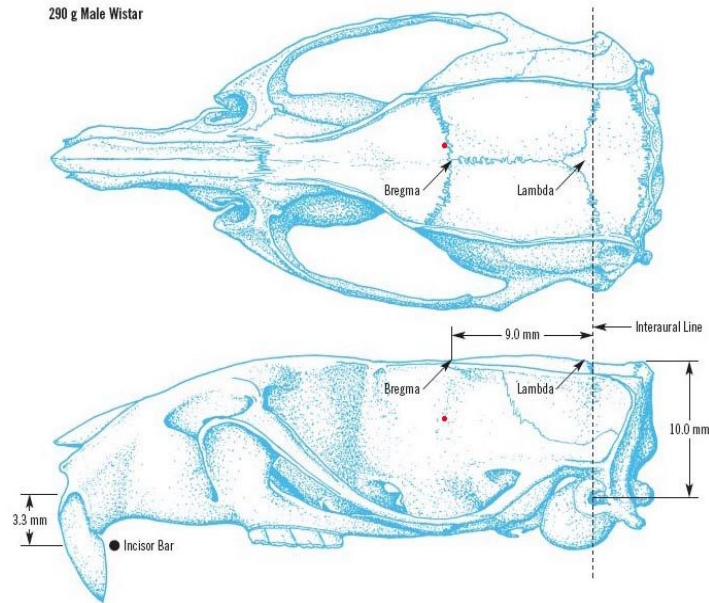

Fig.4 Bregma and lambda landmarks (referenced the 5th Brain Atlas by Watson & Paxinos)
- ① Anesthetize the animal before proceeding and insert the ear-bar into the animal's ear canals, symmetrically regulate the left and right ear-bars to make the animal binauricular axis and the two ear-bar tips are on the same line. (It's optional to fix either the left or right ear bar and you could slide the adaptor as far anterior as possible in the U-Frame to allow clearance while installing the animal).
- ② Once the animal's head is basically centered, part the animal's incisors with forceps and lift the snout up and feed the tooth bar of the adaptor into the mouth, lift the incisors over the tooth bar so that the palate will rest onto the tooth bar just behind the incisors, and then carefully tighten the nose clamp locking screw to secure the snout down onto the tooth bar (be careful not to be too tightly, or else it will have an effect on animal breathing).
③ According to the body weight and bodily form, block up the animal's body upon the chassis with a plastic foam or wooden board (or lifting platform made by RWD) to let the animal's head and body keep horizontal to prevent from respiratory obstruction.
④ Shear off the animal's hair with shaver or curved scissors, disinfect the skin of surgical site with both iodine and alcohol-cotton, make an incision through the scalp and retract the scalp tissue to clear the top of the cranium.
⑤ Wait until the skull is clear and find the bregma as the reference point of X-, Y- and Z-axis in 3-dimensional coordinate system as shown in Fig.4.
⑥ (6) Move the "+" manipulator arm to have the tip positioned directly over the bregma landmark, and then individually write down the readings from the X, Y and Z axis in standard stereotaxic instruments or respectively zero the X, Y and Z values by pressing the keys on the front panel of the digital display module in desktop digital stereotaxic instruments.
⑦ Refer to the brain atlas(the 5th edition by Watson & Paxins) or cite data from references to define the coordinate values of the target point relative to bregma: ML value(X-axis), AP value(Y-axis) and DV value(Z-axis).
⑧ With the bregma as the starting point, move the "+" manipulator arm with corresponding distances(absolute values of AP and ML, respectively) to skull surface directly over the target point and mark the site with positioning tip or other markers.
⑨ Move away the "+" manipulator arm for a moment, and then drill a hole with trephine for placing indwelling guide cannula, electrodes, syringe tips and so on. .
⑩ Fix the syringe tip, electrodes, guide cannula etc. onto the holder, and move back the "+" manipulator arm to the skull surface directly over the target point.
⑪ Move down the "+" manipulator arm with absolute DV value to the target point, followed by injecting, stimulating etc.